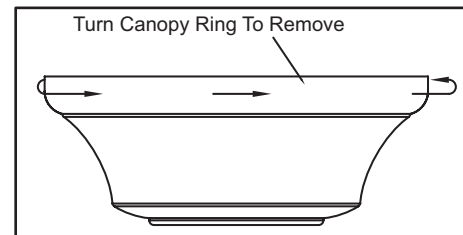

Figure 7
1. Remove the canopy ring from the canopy by turning the ring to the right until it unlocks (Figure 7).